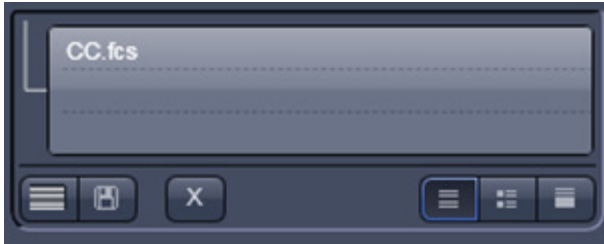

Fig. 350 Open images column
available in the **Open Images** column (Fig. 350) by pressing the **Floppy disc** button.
(1) Save and Save as
- **Save** will save the data in .fcs format and will overwrite an older version. This function is also available in the **Open Images** column (Fig. 350) by pressing the **Floppy disc** button.